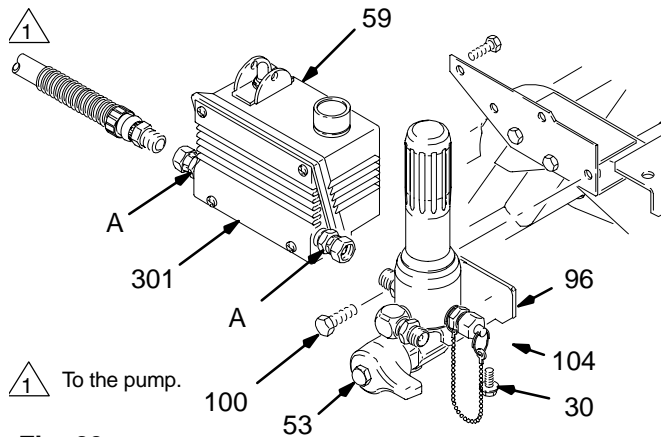

Fig. 23
2. Use two wrenches and disconnect the hose at the pressure control. Hold the fitting (A) firmly. See the **CAUTION**, below. See Fig. 23.
3. Disconnect drain hose (104) at the pressure drain valve (53). Remove screw (100) and use two wrenches to disconnect the fitting between the filter and the pressure control. Hold the fitting (A) firmly. Remove the filter with the bracket (96). Loosen the two screws (30) holding the filter to the bracket (96), but do not remove them.